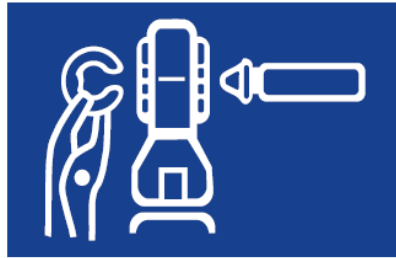

Fig. 5
2. Remove the retaining clip (Fig. 5).